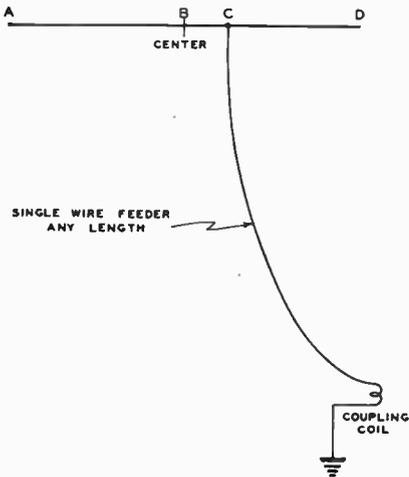

Fig. 1
**T**HE single-wire-fed antenna is a half-wave resonant antenna, fed by a non-resonant single wire which can be of any length. The antenna proper is an electrical half-wave in length at its lowest, or fundamental, frequency of operation. The single wire feeder is usually connected at a point on the antenna approximately one-third the distance from either end, as shown in Fig. 1.